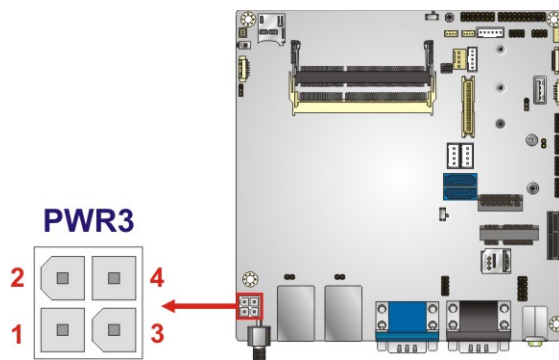

Figure 3-5: DC-IN Power Connector Location
- CN Location:** See **Figure 3-5**